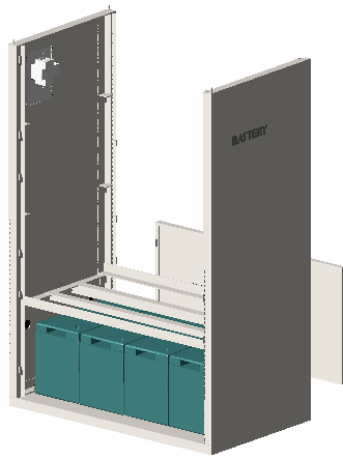
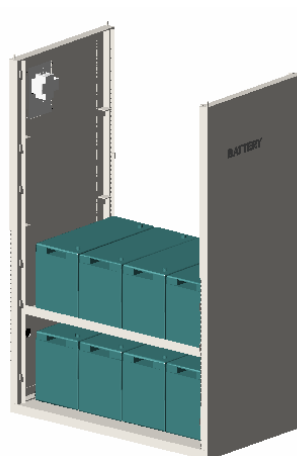

Fig. 10
Fig. 11
Step 5. Cover the second layer of one spacer plate at the bottom, continue to install battery and perform wire connection according to the wiring diagram for specific battery cabinet type, and then mount the other spacer plate at the bottom, as shown in Fig. 10, Fig. 11 and 12.